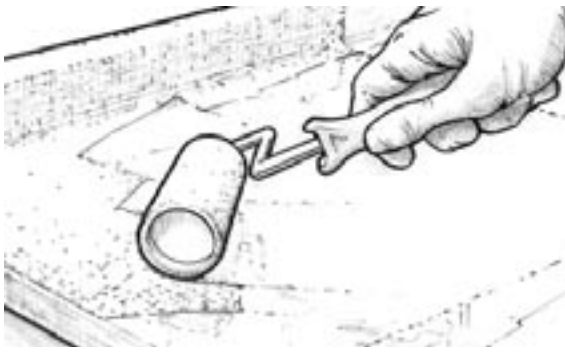

Figure 3-18 Apply the first coat of unthickened epoxy to fill the weave of the cloth before the wet-out coat reaches its final cure stage.
- Coat the surface to fill the weave before the wet-out reaches its final cure stage (*Figure 3-18*). Follow the procedures for final coating under Section 3.4.7. It will take two or three coats to completely fill the weave of the cloth and to allow for a final sanding that will not affect the cloth.